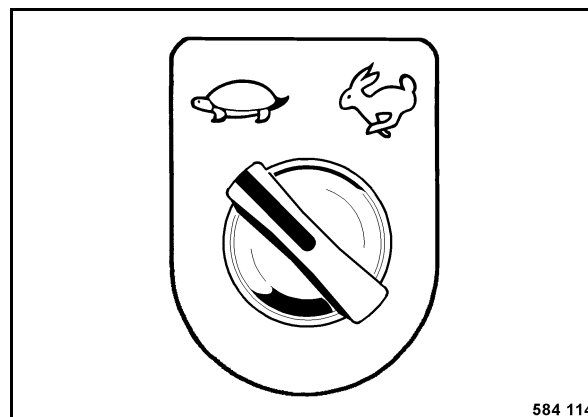

Fig. 48
- Select the desired travel speed range (Fig. 48).